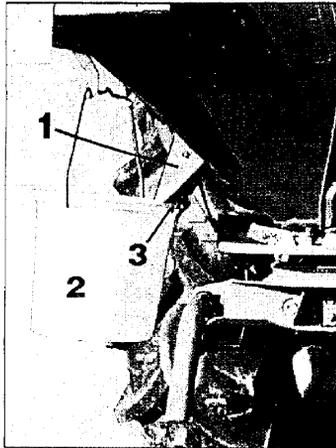

Fig. 8
3.2 Determining the shutter slide position without setting chart but with the aid of the calibration device (Fig. 8/1).
- Hang in bucket (Fig. 8/2) by its handle to the hooks provided at the machine and let the clamping device (Fig. 8/3) lock in.